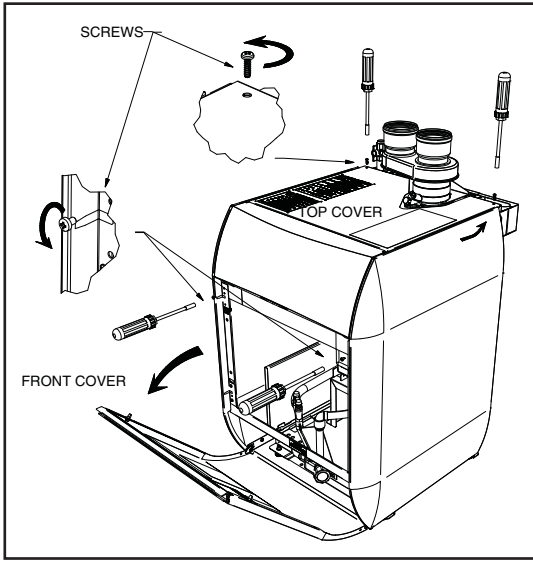

Figure 26a. Remove jacket top and front covers.
- A. Remove the boiler jacket top panel, by removing the 2 screws near the back and lifting as the top panel is slid toward the back. Remove the boiler jacket front panel, by pulling forward from the top, and lifting off the pivots at the bottom. (See Figure 26a).